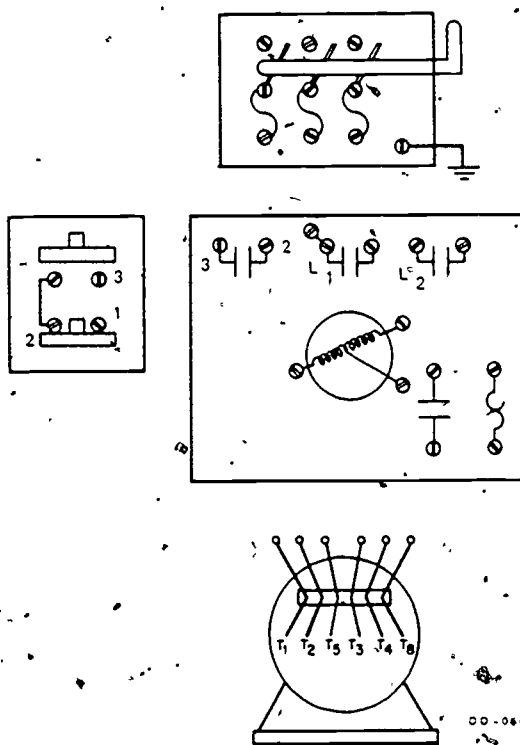

Figure 30. Connecting a Single-Phase Starter for Low Voltage
Step 1. Complete the following diagram in figure 30. Motor will operate on low voltage.
Step 2. Using the diagram you have just completed in figure 30, connect a single-phase motor controlled by a magnetic starter and one start-stop station.